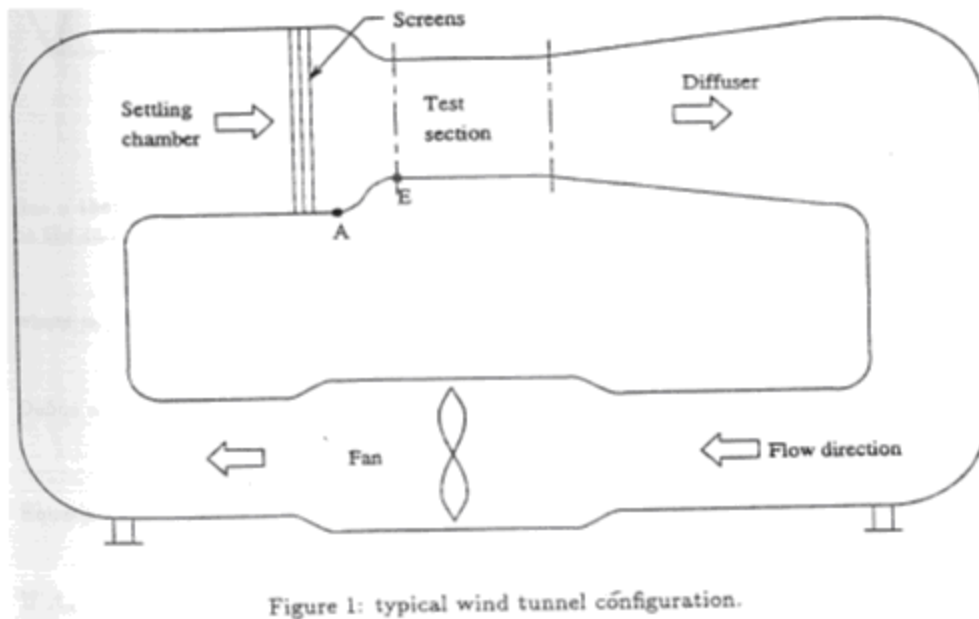

Figure 1: typical wind tunnel configuration.
In using the wind tunnel to conduct tests, it is essential to know the dynamic pressure of the flow in the test section. It is not practical to insert a pitot-static tube into the tunnel flow when the model is present because: (1). it would interfere with the model; (2). it would not give a true reading because of the effect of the model on it; and (3). it is sometimes impossible to do so. One solution to this problem is to make pressure measurements at two convenient points in the wind tunnel and then relate these measurements to the dynamic pressure in the test section. The two points used should not interfere with the test in the wind tunnel. In this test, the two points are approximately at the points A and E shown in Fig.1